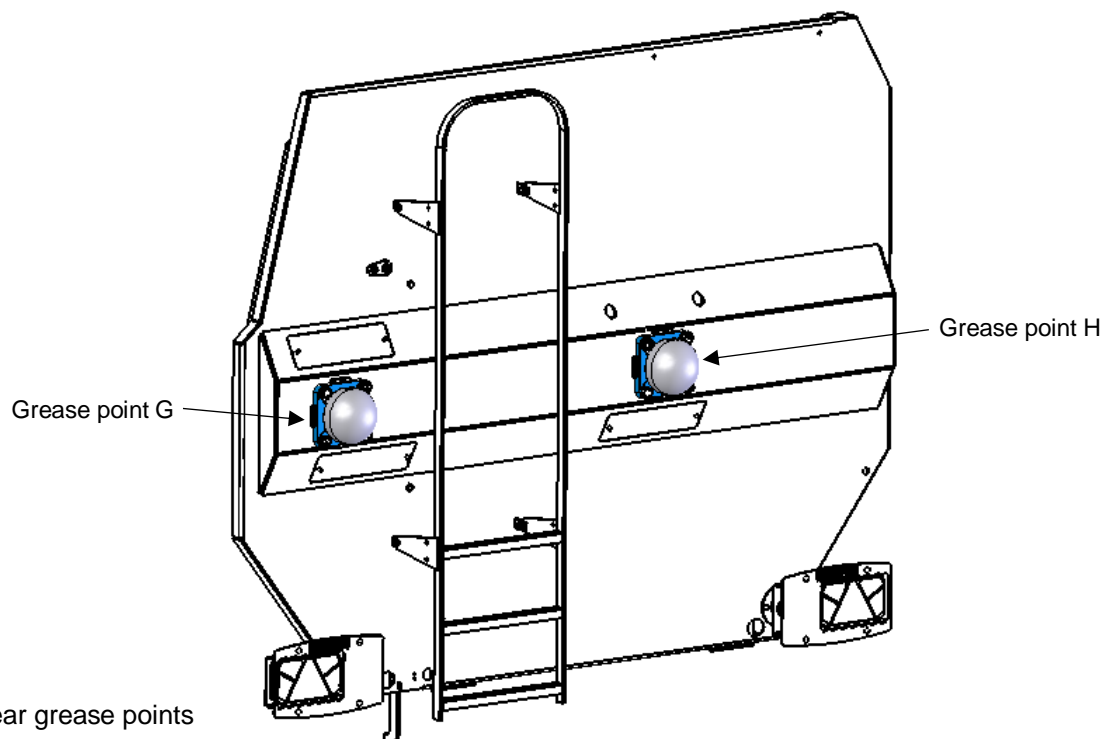

Figure 13: Rear grease points
- d. The two main bearings at the rear of the KEENAN MechFiber (G and H, Figure 13).